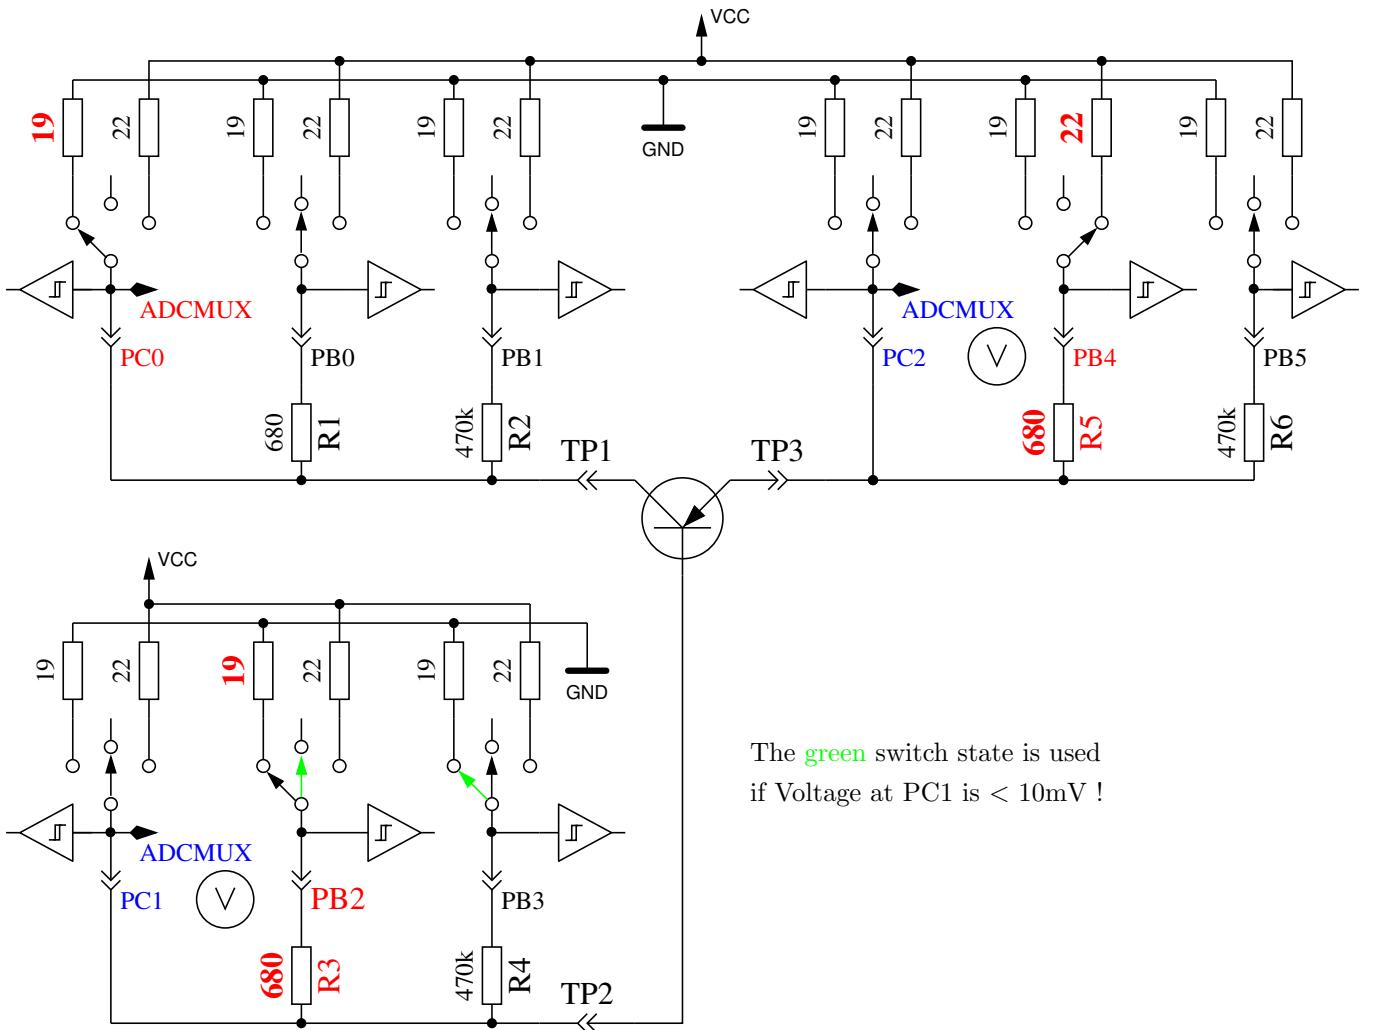

Figure 5.4. hFE measurement of PNP transistor with common collector circuit
First the current amplification factor is measured with common collector (emitter follower) for the assumed PNP transistor. The measuring situation is shown in figure 5.4. If the measured voltage at the Base (UB) is above 9 mV with the $680\ \Omega$ resistor, the hFE is build as $hFE = \frac{UE - UB}{UB}$. The voltage UE is the difference of the Emitter-voltage to VCC. The difference between the $22\ \Omega$ and $19\ \Omega$ resistors are not respected. If the UB voltage is below 10 mV, the measurement is done with the $470\ k\Omega$ resistor at the base. In this case the current amplification factor is build as $hFE = \frac{UE \cdot 470000}{UB \cdot (680 + 22)}$.